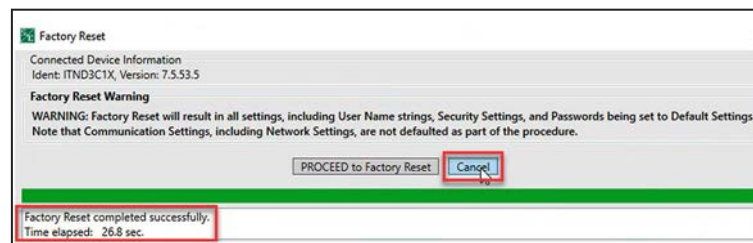

Figure 128. The Factory Reset completed successfully message.
STEP 6. When the **Factory Reset** procedure is completed, click on the **Cancel** button to complete the procedure. See Figure 128.